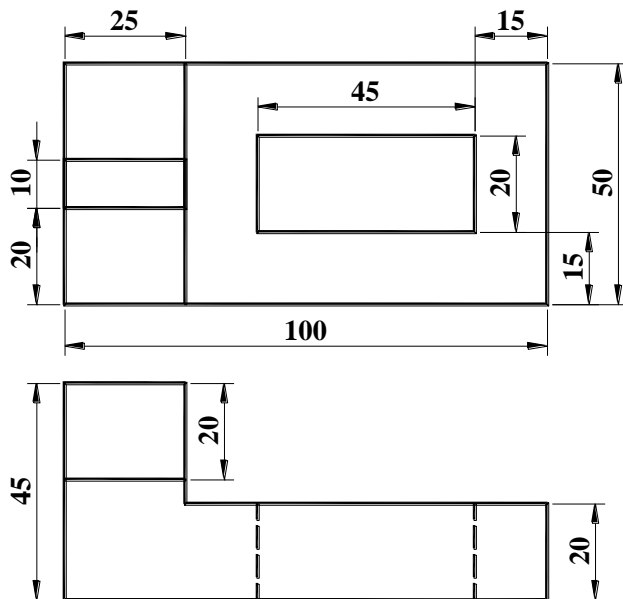

FIGURE T1.1A
1. 1. DRAW THE ISOMETRIC DRAWINGS FROM THE GIVEN ORTHOGRAPHIC VIEWS IN FIGURE T1.1A TO T1.1F.